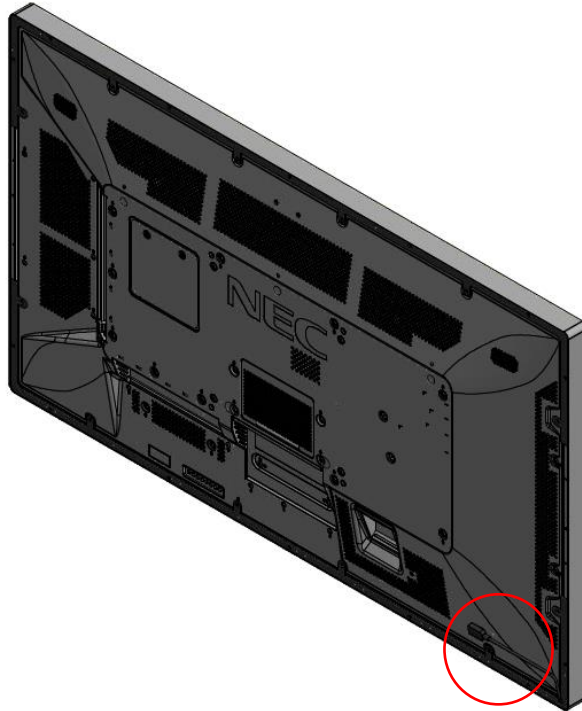

Figure 3: Position of USB port
2. To set up the touch function connect one end of the included USB cable A-male/A-male to the USB port (A-female) at the lower right corner (backside view, red circle in Figure 3) of the primeTOUCH flat overlay and connect the other end to your PC.